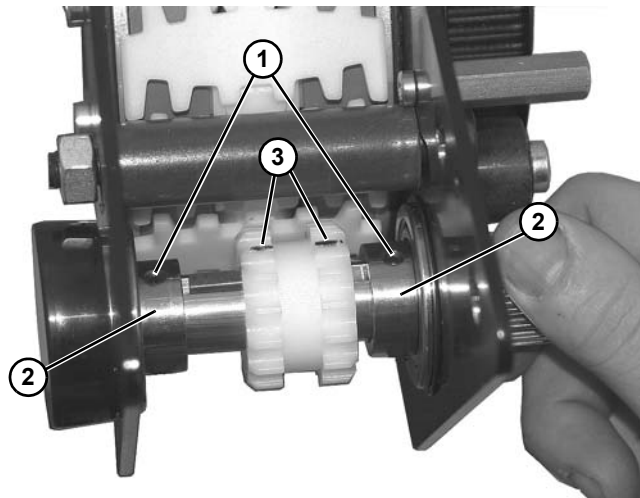

Figure 166
14. Loosen two set screws (**Figure 166, item 1**) on two bearings (**Figure 166, item 2**).
15. Loosen sprocket set screws (**Figure 166, item 3**).